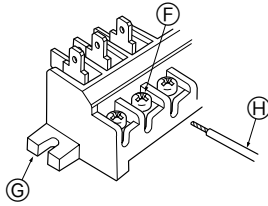

Fig. 7-4
- Connect the terminal blocks as shown in the diagram below. (Fig. 7-4)